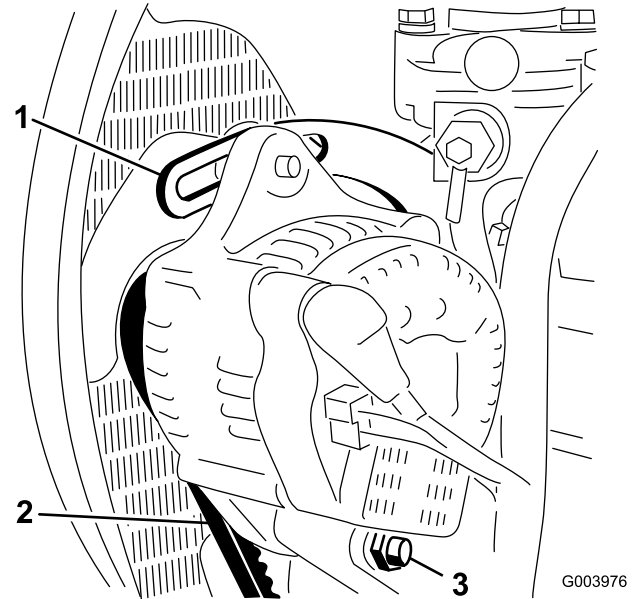

Figure 71
2. Check the tension of the alternator belt by pressing it (Figure 71) midway between the alternator and the crankshaft pulleys with 10 kg (22 lb) of force.
3. Loosen the bolt securing the brace to the engine (Figure 71), the bolt securing the alternator to the brace and the pivot bolt.